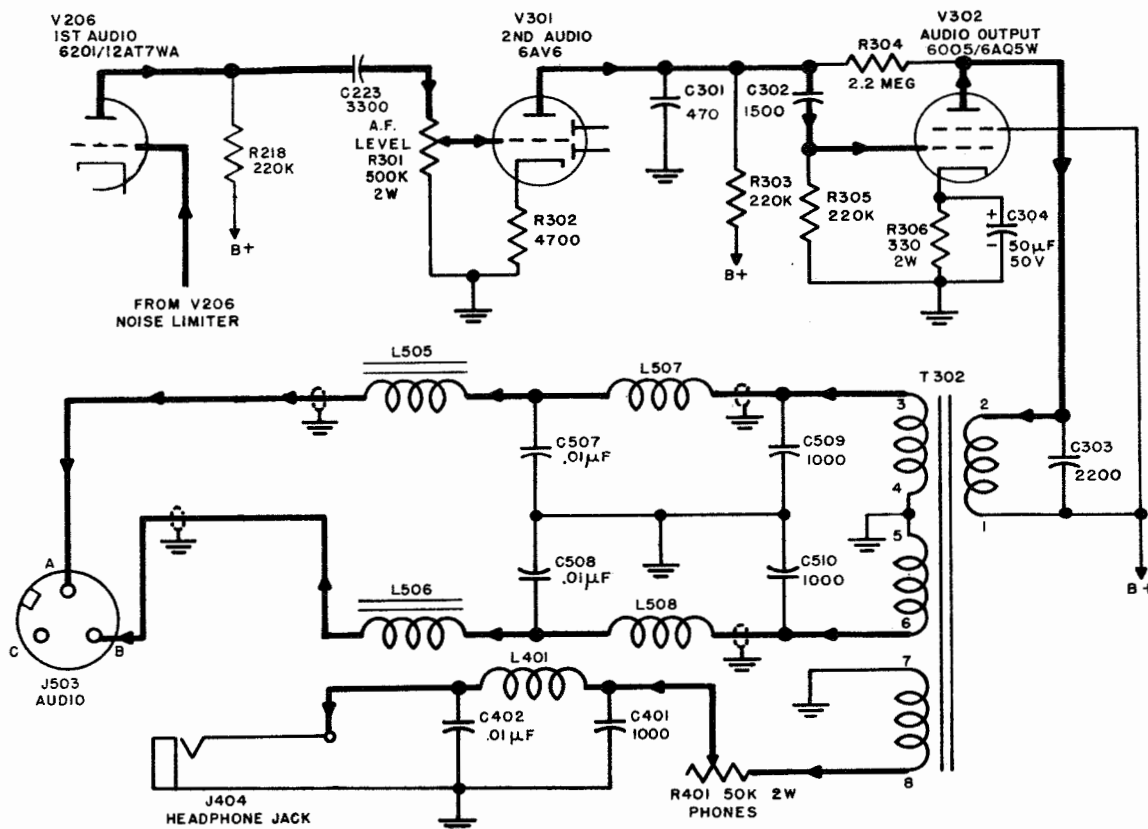

Figure 2-11. Simplified Schematic, Audio Amplifier and Output
(1) AUDIO AMPLIFIER AND OUTPUT.—The audio amplifier, as indicated in the simplified schematic of figure 2-11, is basically conventional. Inverse feedback is used to permit audio output load changes with a minimum of change in output level; the audio output is maintained within 2 db over a load variation of 200 to 600 ohms. Over-all distortion is less than 7 per cent for 1.5 watts output with a load of 200 to 600 ohms. With a 600 ohm load, the frequency response is flat within 2 db over the range of 300 to 3500 cycles. Above 3500 cycles, the response takes a sharp drop and at 30,000 cycles is down more than 45 db. The audio signal from the noise limiter output is applied to the grid of the triode connected section of the 6201/12AT7WA (V206) which acts as an audio amplifier. The amplified signal on plate resistor R218 is coupled through capacitor C223 and through the A.F. LEVEL control R301 to the grid of the second audio amplifier tube 6AV6 (V301). Cathode resistor R302 provides the proper operating bias for V301. The amplified signal is developed across plate load resistor R303 which is by-passed by audio shaping capacitor C301. The signal is coupled to the grid of the audio output tube 6005/